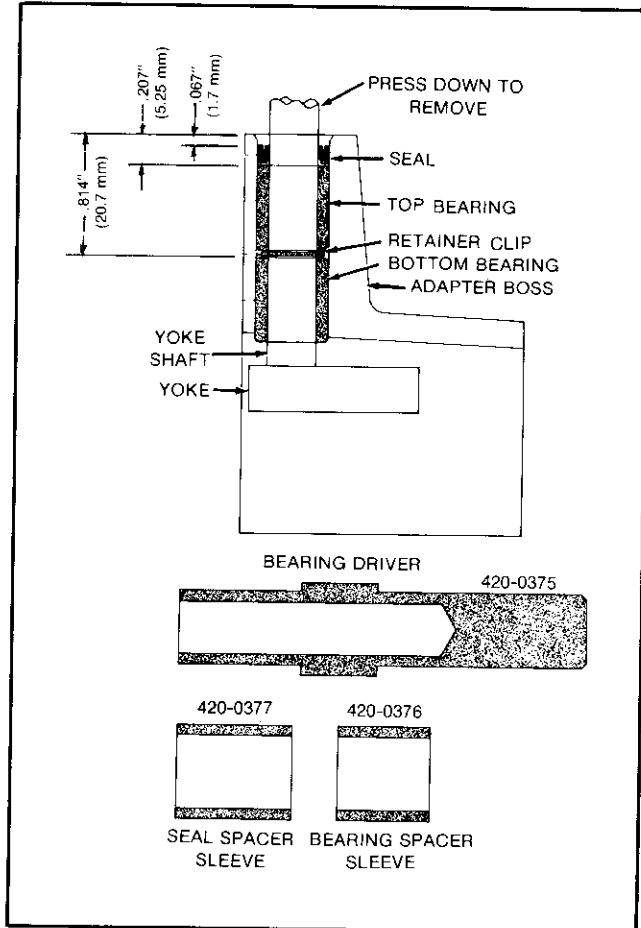

FIGURE 3-48. BEARING INSTALLATION AND TOOL PACKAGE (420-0374)
1. Referring to Figure 3-48, press shaft and yoke assembly towards center of adapter until shaft and bottom bearing slips out bottom end.